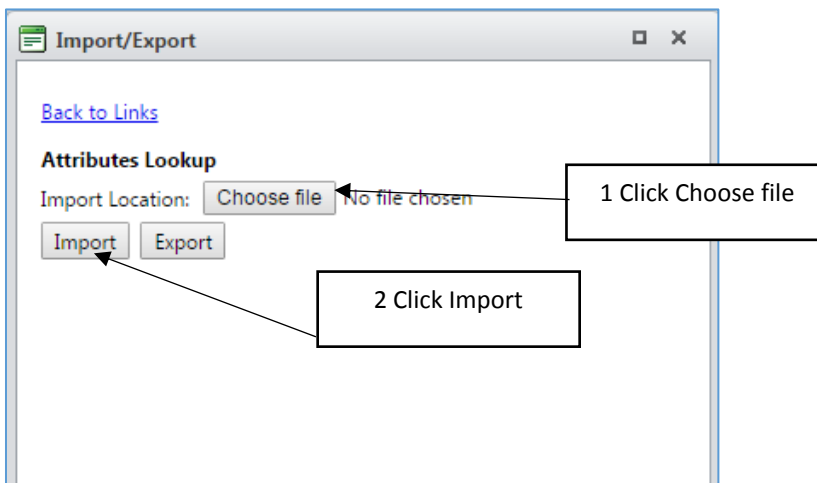

Figure 7.
- 5) Click Choose File then browse your computer for the spread sheet you have just saved. Next click Import. See figure 7.